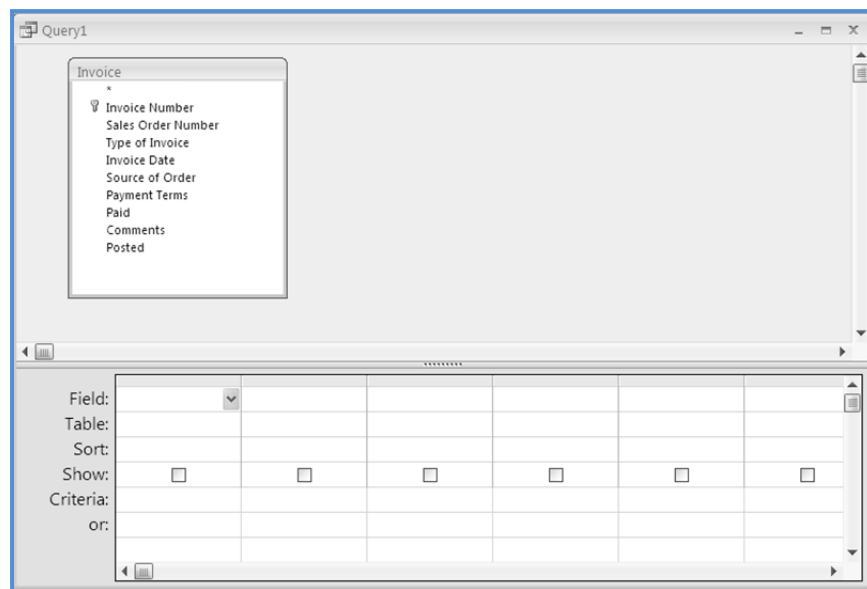

Fig. 1.2.3: Query Designer Window
4. The *Query Designer Window* appears, as shown in Fig. 1.2.3.